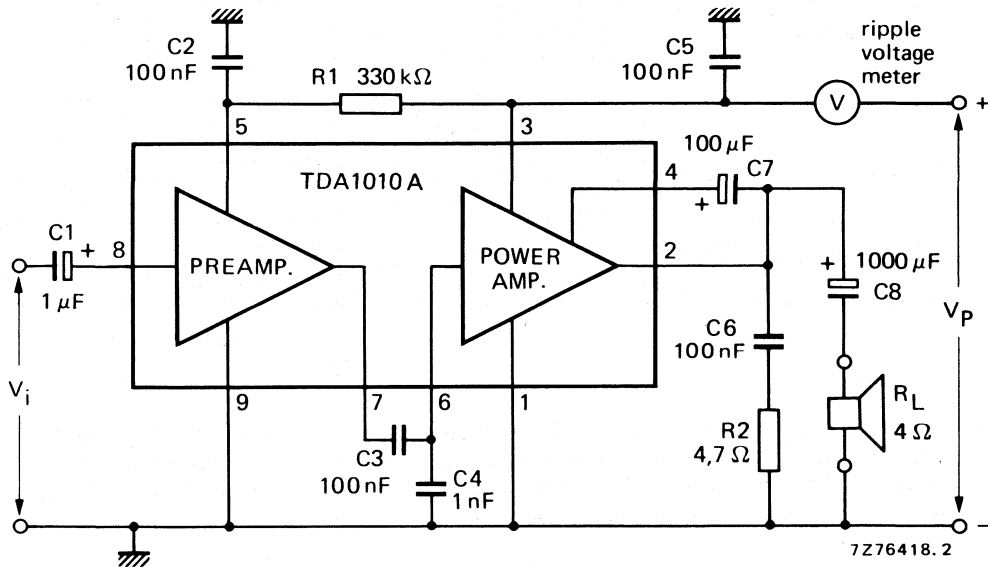

Fig. 3 Test circuit.
$T_{amb} = 25$ °C; $V_P = 14,4$ V; $R_L = 4$ Ω ; $f = 1$ kHz unless otherwise specified; see also Fig. 3.
Fig. 4 Output power of the circuit of Fig. 3 as a function of the supply voltage with the load impedance as a parameter; typical values. Solid lines indicate the power across the load, dashed lines that available at pin 2 of the TDA1010. $R_L = 2 \Omega$ (1) has been measured with an additional 220Ω bootstrap resistor between pins 3 and 4. Measurements were made at $f = 1$ kHz, $d_{tot} = 10\%$, $T_{amb} = 25$ °C.
Total harmonic distortion in the circuit of Fig. 3 as a function of the output power with the load impedance as a parameter; typical values. Solid lines indicate the power across the load, dashed lines that available at pin 2 of the TDA1010. $R_L = 2 \Omega$ (1) has been measured with an additional 220Ω bootstrap resistor between pins 3 and 4. Measurements were made at $f = 1$ kHz, $V_p = 14.4$ V.
Fig. 7 Total power dissipation (solid lines) and the efficiency (dashed lines) of the circuit of Fig. 3 as a function of the output power with the load impedance as a parameter (for $R_L = 2 \Omega$ an external bootstrap resistor of 220 Ω has been used); typical values. $V_P = 14,4$ V; $f = 1$ kHz.